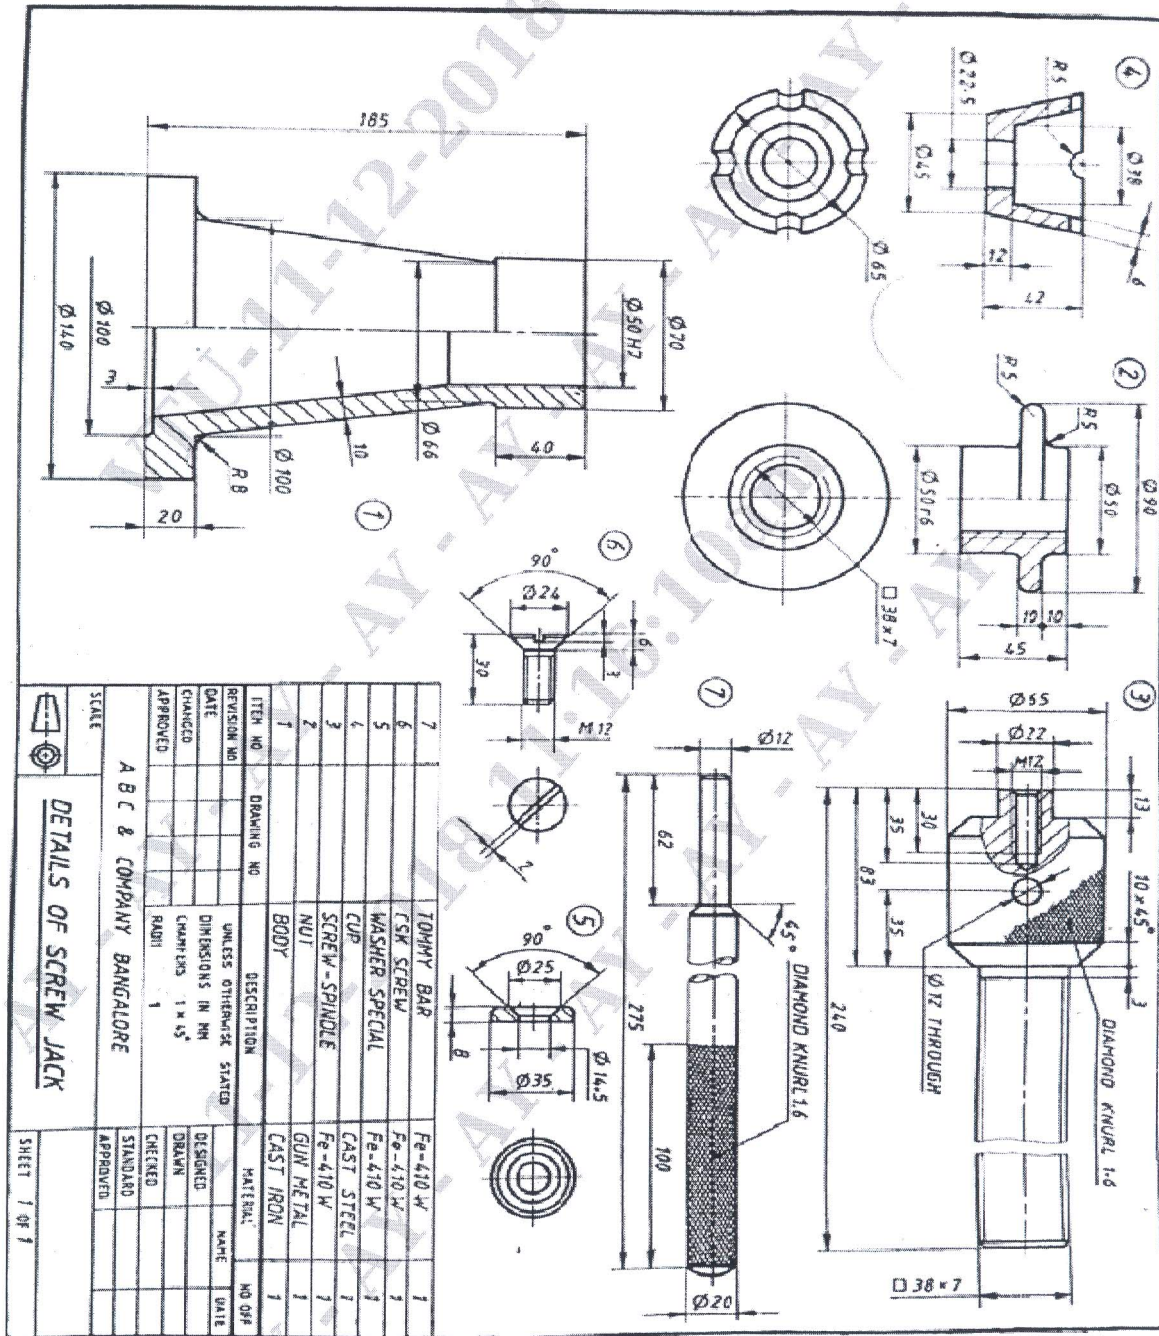

Figure 2: Details of screw jack
Q.No.5 Figure 2 shows the details of a "SCREW JACK". Assemble the parts and show the following views.